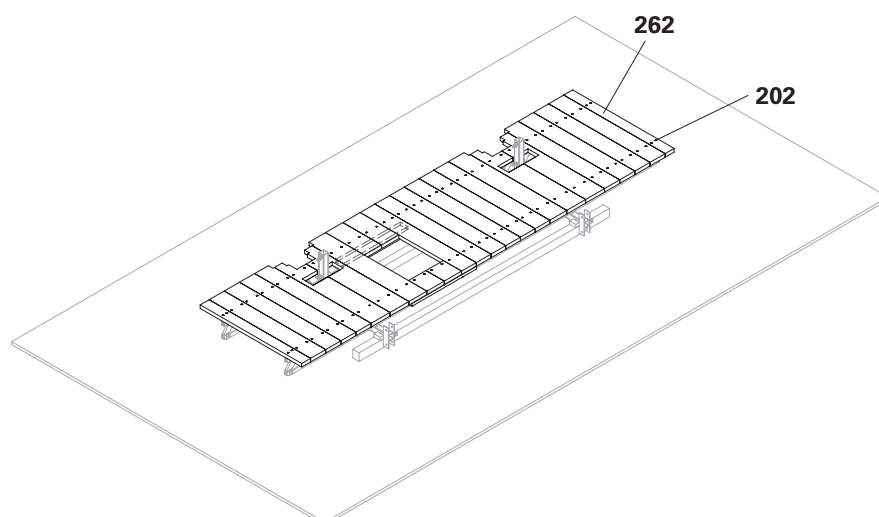

Fig. B5.07
6. Place the planking (262) on the Formwork Girder GT 24 (21), align and screw tight with 2x Torx 6 x 80 (202) per formwork girder. (Fig. B5.07).